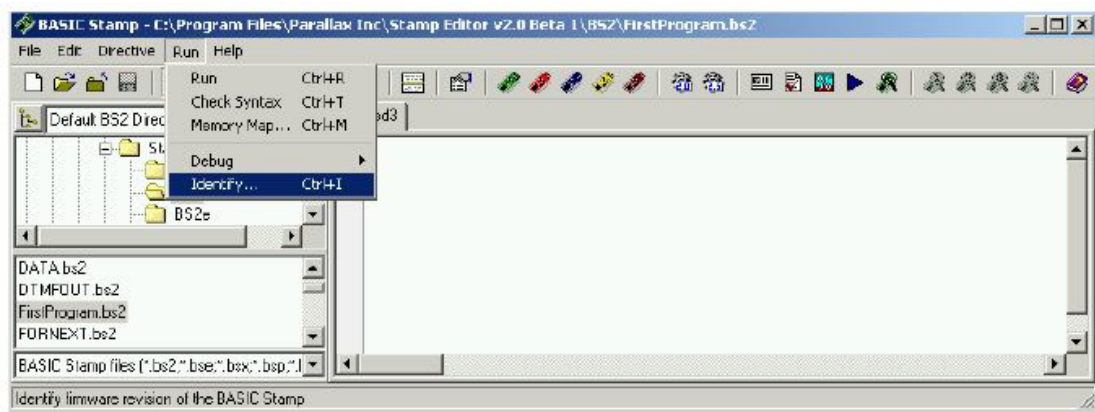
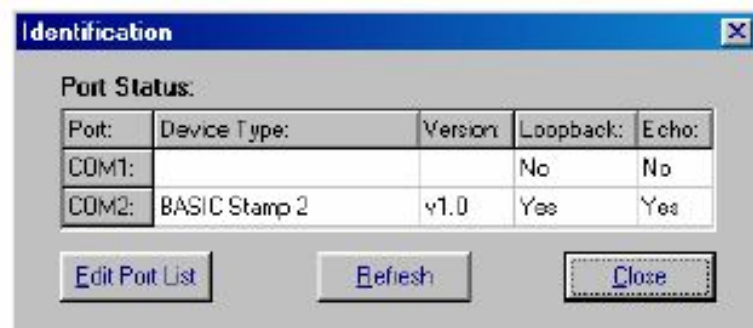

Figure 3: Basic Stamp Editor.
Figure 4: COM Port detection.
6. In order to make sure that the BASIC Stamp is communicating with your computer, click the Run menu, then select Identify (see Figure 3). A window similar to the one shown in Figure 4 should appear. Make sure that BASIC STAMP 2 appears in one of the COM Ports. If it does NOT appear, refer to Appendix A of [1] for troubleshooting tips.